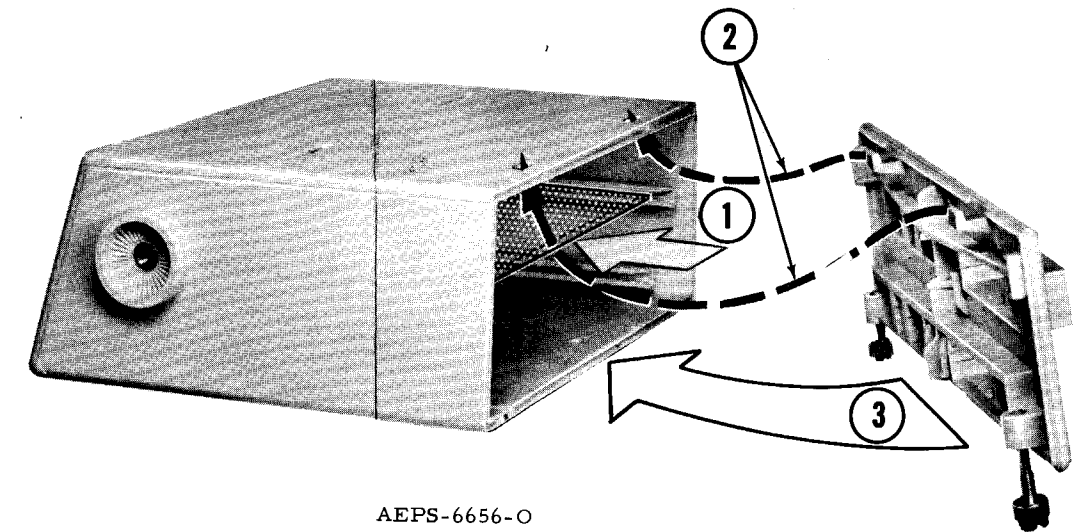

Figure 3C.
- (1) Remove the escutcheon backing and apply carefully to the housing assembly front panel. Use care to align the holes in the escutcheon with the holes in the panel.
- (2) Place the card into the two rails as shown in Figure 3C and slide the circuit card completely into the housing assembly.
- (4) Refer to Figure 3C. Install the rear housing cover by inserting the tabs on the top of the cover into the holes in the top of the housing assembly and swinging the cover down against the bottom and securing it with the two captive screws.
- (5) Disconnect the black connector (P1101) from the control head.
- (6) Use the contact removal tool to remove the following wires, with pins attached, from P1101.